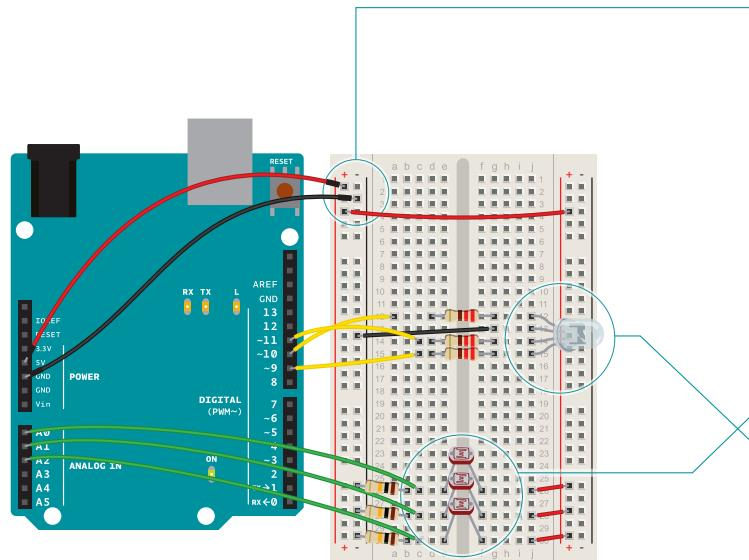

Fig. 1
- 2** Place the three photoresistors on the breadboard so they cross the center divide from one side to the other, as shown in Fig. 1. Attach one end of each photoresistor to power. On the other side, attach a 10-kilohm resistor to ground. This resistor is in series with the photoresistor, and together they form a voltage divider. The voltage at the point where they meet is proportional to the ratio of their resistances, according to Ohm's Law (see Project 1 for more on Ohm's Law). As the resistance of the photoresistor changes when light hits it, the voltage at this junction changes as well. On the same side as the resistor, connect the photoresistors to Analog In pins 0, 1, and 2 with hookup wire.